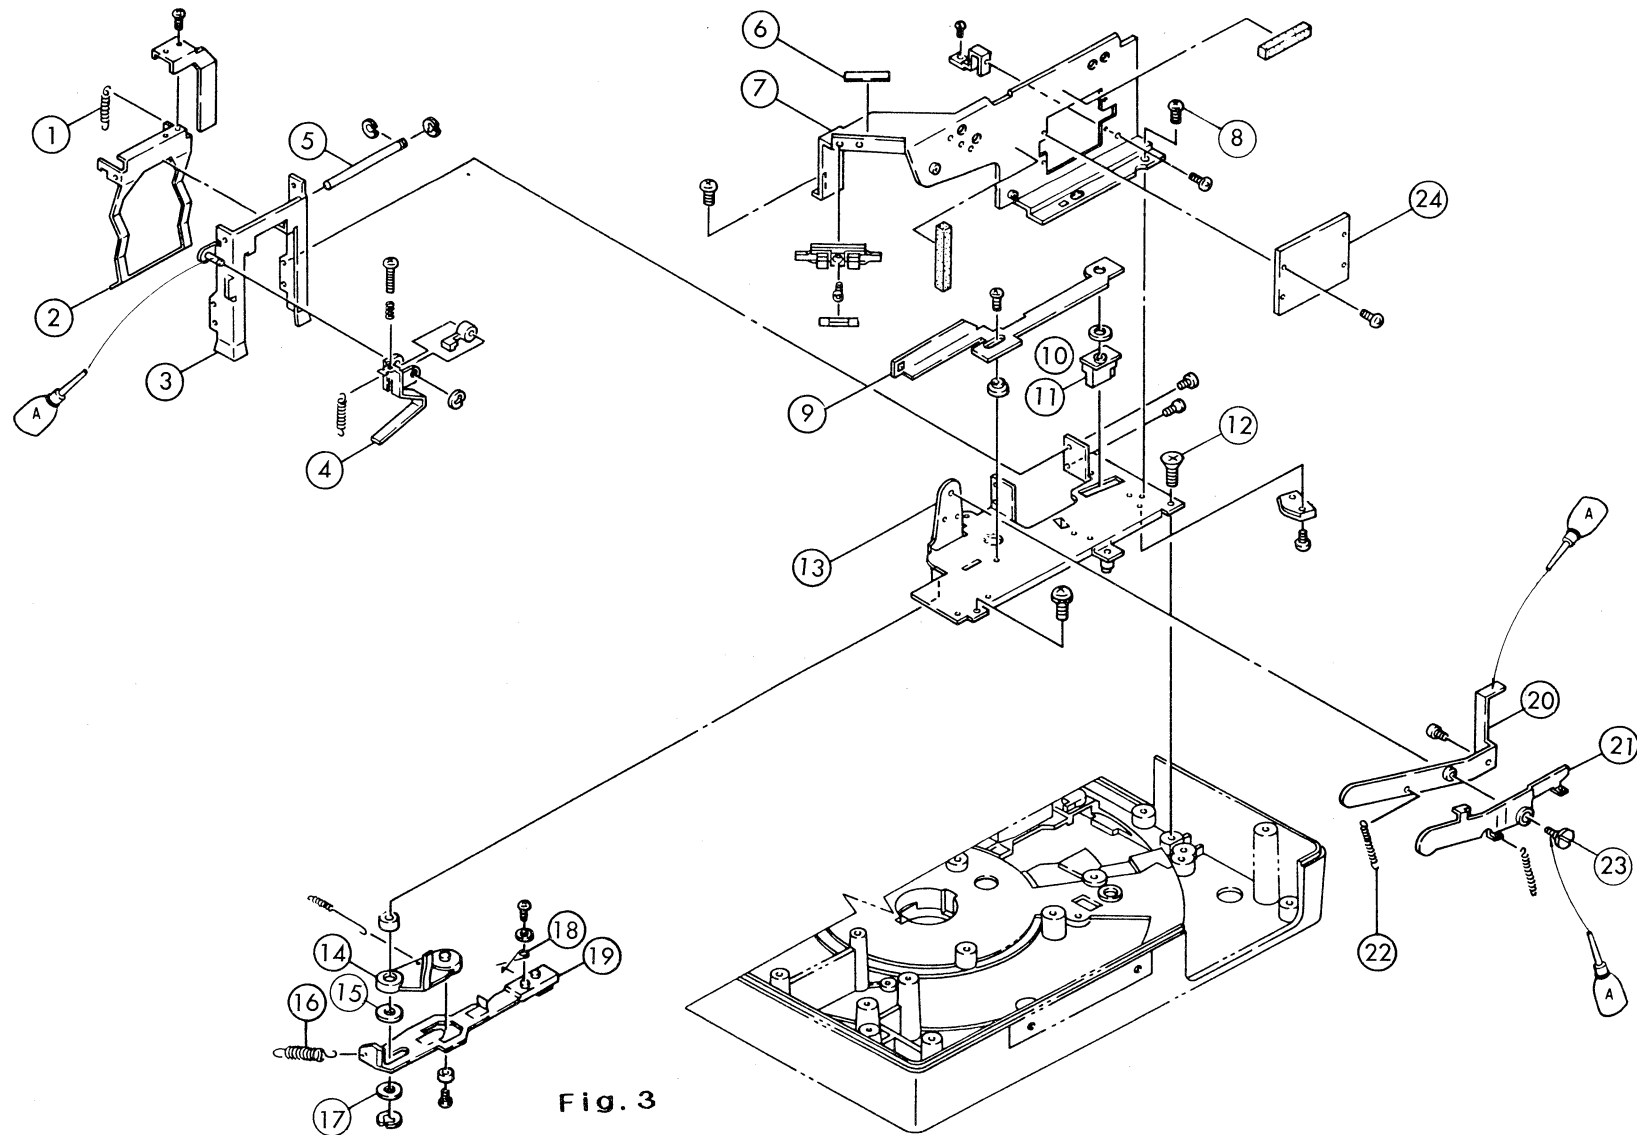
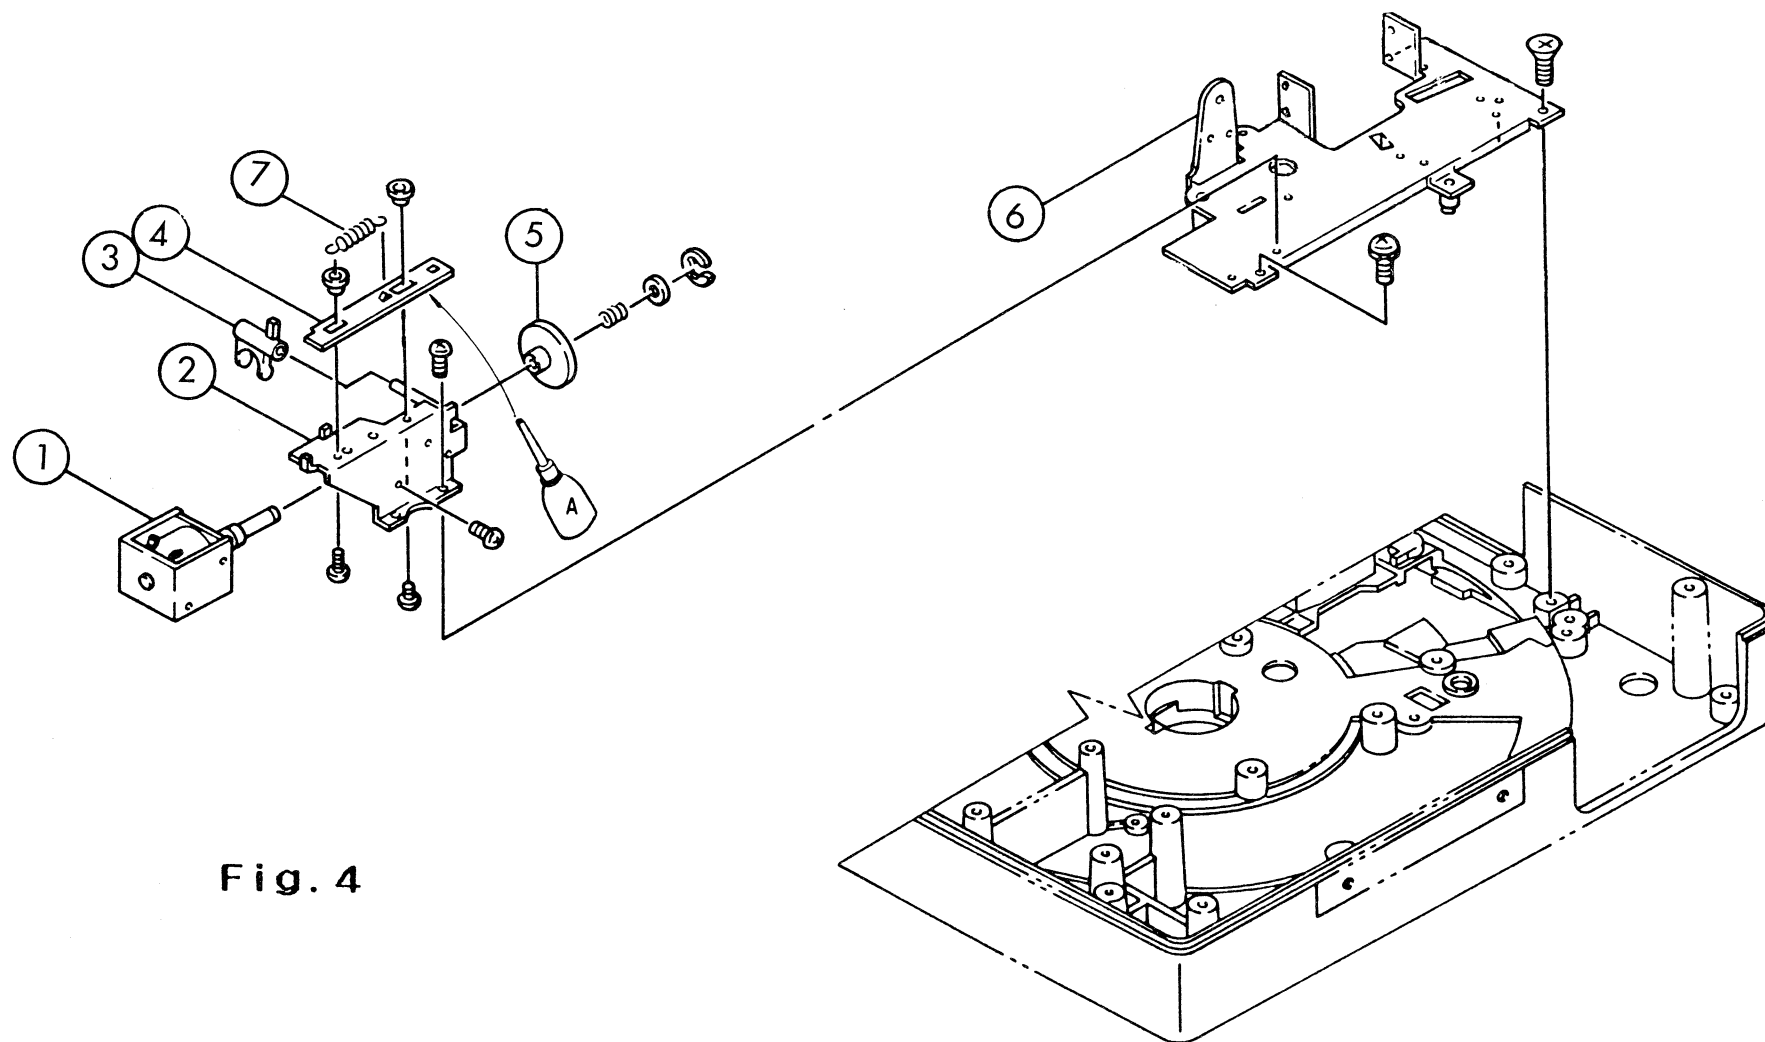

Fig. 3
Fig. 4
IV — 1 Film Feeding Section (See Fig. 3)
Transport Base P. Assy ⑬ : All parts shown in Fig. 3 are installed.
Lever F-R Switch ⑭ : Activated by the boss magnet shaft ⑤ (Fig. 4), installed to the solenoid ① (Fig. 4), it decides the traveling direction of ⑲ and determines the forward/reverse direction of tray rotation.
Film is transported (fed) in reverse direction even when FORWARD button is depressed.	The A-portion of ①⑨ gets caught before the B-portion of ①④ has returned to the original position. (See Fig. 3).
1. Remove springs from (7).
2. Unscrew ⑧ x 3 pcs. to remove ⑦.
3. Remove ②② before unscrewing ①② x 5 pcs. to take out assy parts of ①③.
4. See Fig. 3 for the disassembly of parts at the top of ①③.
5. Remove ①⑥ before disassembly ①④ ~ ①⑨.
6. See Fig. 3 for further disassembly.
IV – 2 Trigger Solenoid Section (See Fig. 4)
- Holder Solenoid Assy ② : All parts shown in Fig. 4 are attached to it before being installed to (6).
See Fig. 4 for disassembly.
- Cam (1) Shutter ⑦: A-surface activates the switching of ③ and ⑤, while B-surface activates Fig. 3 ⑳ → Fig. 3 ㉒ → Fig. 3 ㉓ → Fig. 3 ㉔.
- Cam (2) Tray Transport ⑫: A-surface activates ⑪ → Fig. 3 ⑲, while B-surface activates ⑲.
- Cam (3) Tray Lock ⑬: B-surface activates ㉑ → Fig. 3 ⑪, while A-surface has no parts alignment.
- Bearing (2) ④: Installed with ③ and ⑤, it holds ㉕.
- Clutch Switch ③: It controls the holding (retaining) time of solenoid ① (Fig. 4) at the time of forward transport.
- Hold Switch ⑤: It controls the holding (retaining) time of solenoid ① (Fig. 4) at the time of reverse transport.
- Holder Safety Assy ⑪: This is a device to bring the cam to safety stop when abnormal load is applied during operation of the machine.
- Head Slide Pressure ㉒: Installed to ⑲, it moves the slide mount up and down.
Tray fails to carry out normal function.	Defective fixing position of ㉒ (See Fig. 8), wear of contact surface and defective aligning position of ⑫ and ⑪, deformation of ㉑ and defective alignment with ㉑ in Fig. 3, or/and defective ⑪ (stops during rotation, producing a 'click' sound.)
- Drive Motor ⑭: This is the driving source for driving the cam.
- Gear (2) Clutch ⑦: With the rotation transmitted through ⑭ → ⑫ → ⑪ → ⑦, it carries out free rotation against ⑥.
- Clutch Lever ④: It rotates and stops the cam. With the escape of ④ (Fig. 4), the clutch lever ④ gets engaged with the ratchet tooth of ⑦, transmitting the rotation of ⑦ to ④ → ⑥ → cam. Furthermore, when ④ (Fig. 4) returns, the clutch lever ④ gets disengaged from the ratchet tooth of ⑦, causing the cam to stop rotating.
- Lever Assy Switch ①: It temporarily extinguishes the lamp at the time of slide mount exchange, and prevents the projection light from entering the camera. With ① pushed up by ④ during the time ④ is stopped by ④ (Fig. 4), the switch ② is turned to ON and the lamp is lit up. When ④ starts rotating, ① gets released, the switch is turned to OFF and the lamp is extinguished. When ④ makes one turn and pushes ① up again, the switch turns to ON and the lamp is lit up.
- Clutch Lever Assy ⑬: With ④ disengaged from ⑦, ④ is still in the position to touch ratchet tooth tip of ⑦ and is likely to grind off the ratchet. In order to prevent this, the cam is slightly rotated by the force of ⑰ through ⑬ to keep ④ fairly apart from the ratchet tooth tip of ⑦.